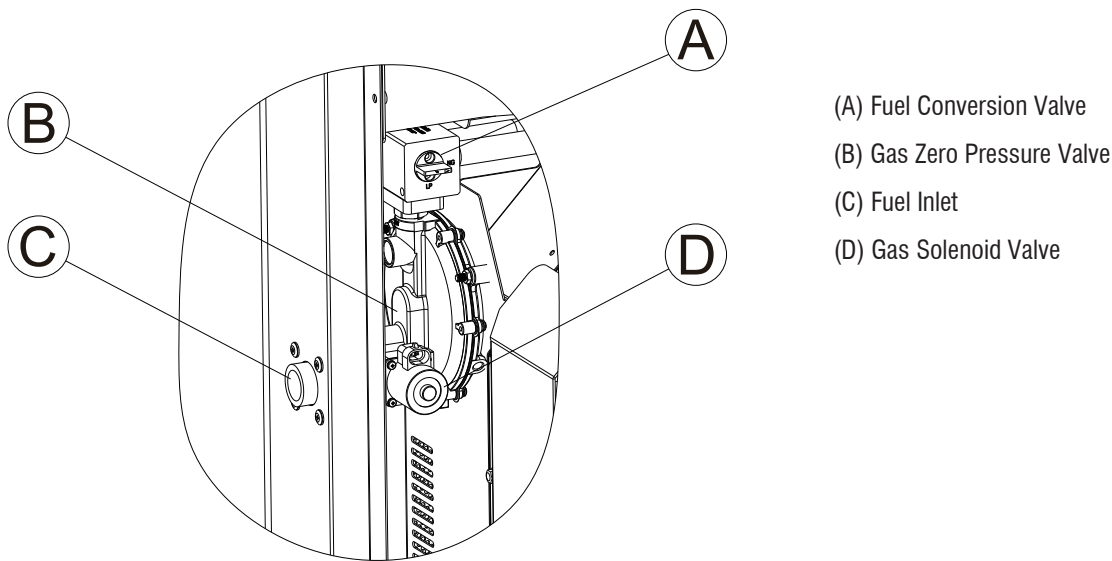

Figure 8
- Install the provided flexible fuel line (B, Fig. 8) between the generator fuel inlet (A) and the rigid piping to prevent excessive stress on the piping materials due to thermal expansion and contraction.
- Provide a joint (C) or flange connection downstream for future disassembly.
- Install a manometer test port (D) for vapor fuel.
2. Locate the gas conversion valve (A, Figure 8) on top of the gas zero pressure valve (B).